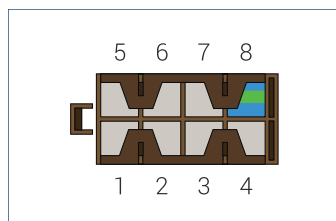

Figure 2.1:
1. Connect the Tacho Info cable (blue/green) with PIN D8 of the brown plug using a cable shoe (fig. 2.1).